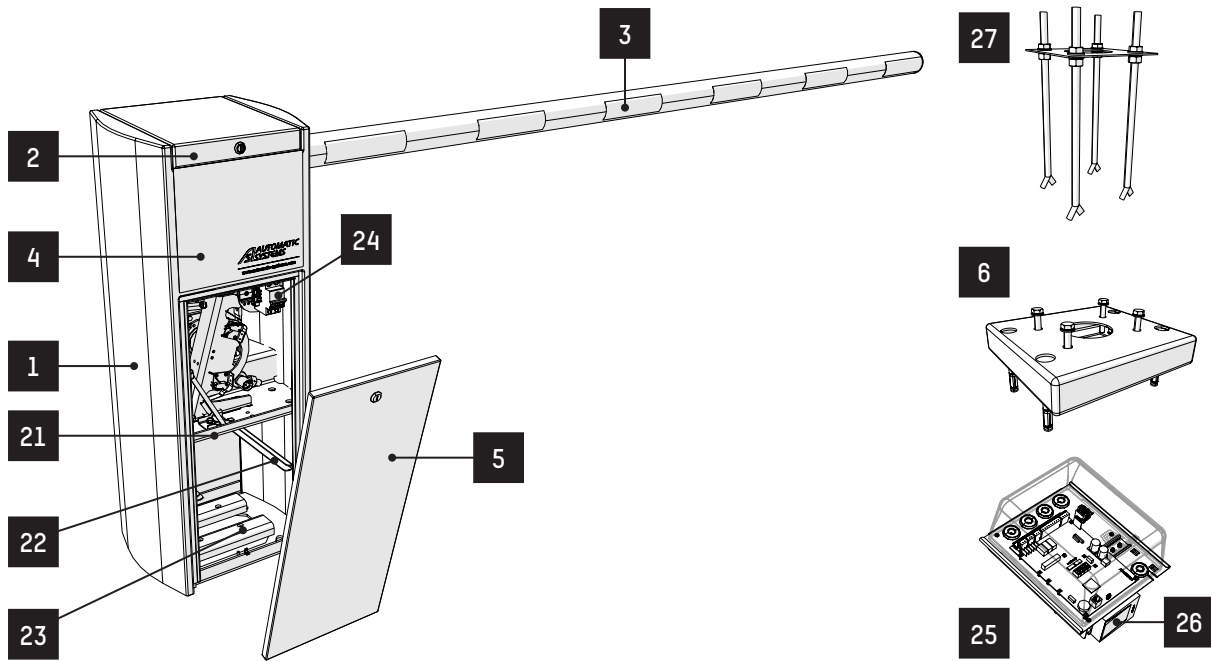

Fig. 1 - Component location - General
- Before opening the housing, cut off the power supply on the circuit breaker (⇒ Rep. **24**, Fig. 1, page 9).